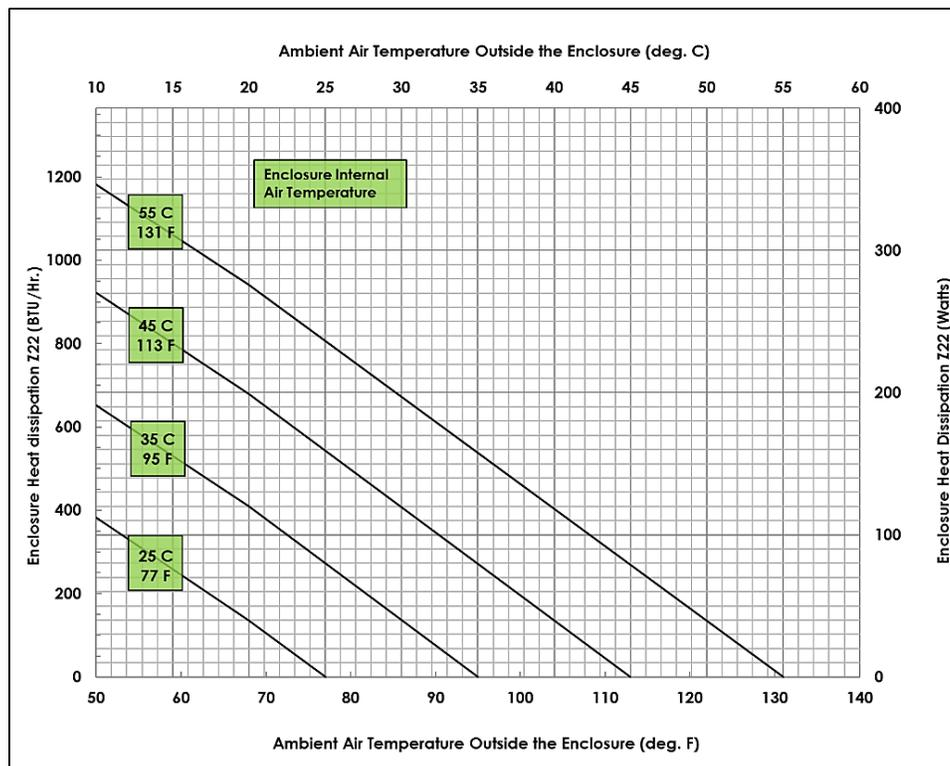

Figure 17: Z22 Enclosure Thermal Guideline – Sealed
2. Figure 17 provides a guide for a sealed Panduit Z22x enclosure heat dissipation for various external ambient temperatures.